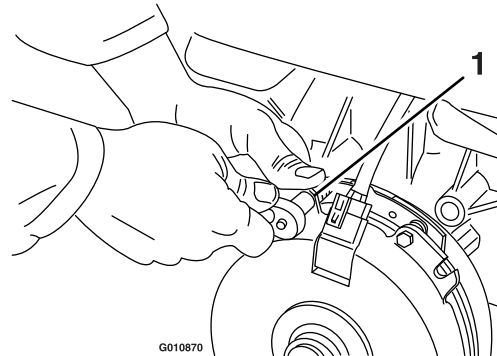

Figure 65
- A. Loosen both brake mounting bolts 1/2 to 1 full turn as shown in Figure 65.